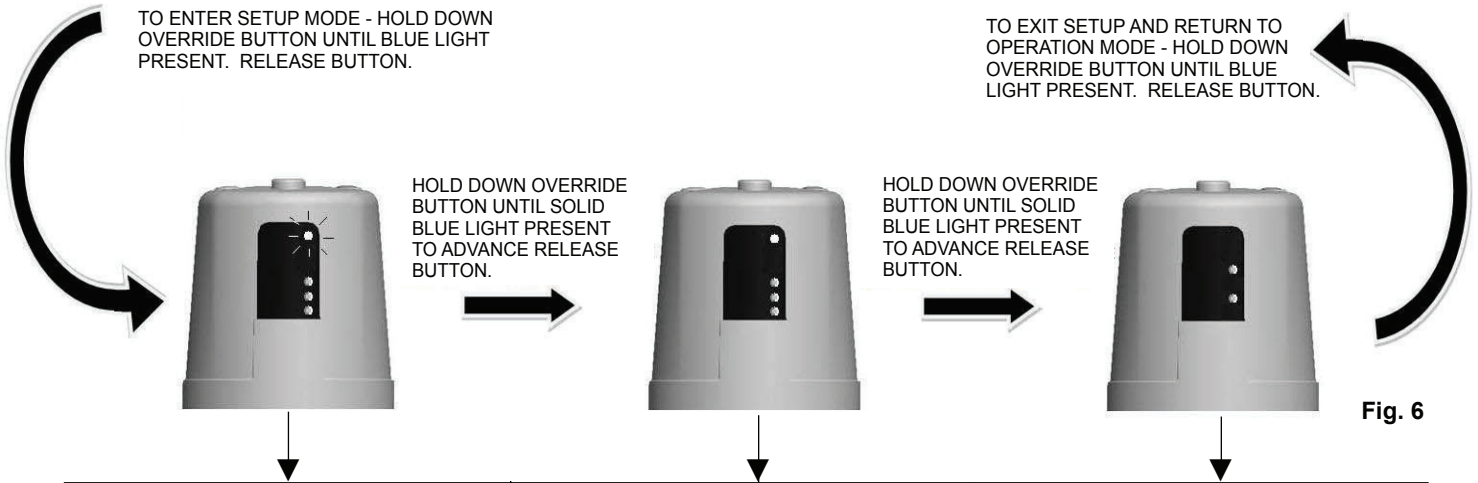

Fig. 6
- While in Set-Up Mode, the user will move through the different adjustment modes one by one, in the order as described above. Use the override button to toggle through the different settings of the adjustment feature being altered. To advance to the next adjustment mode, hold down override button until blue light is present, then release the button. See Figure 6.
- Configure the sensing ranges by selecting the appropriate bowl length. Refer to Figure 6 for the different bowl length settings.
- Each press and release of the override button advances to the next length/distance. (See Figure 6 for a list of distances.)